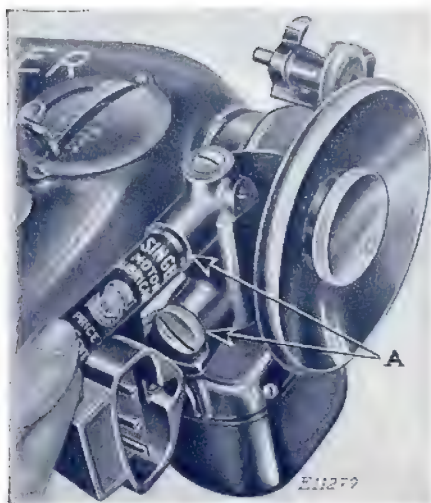

FIG. 29. LUBRICATING THE MOTOR
When the machine is shipped from the factory, the two motor grease cups (A, Fig. 29) are filled with sufficient **SINGER MOTOR LUBRICANT** for approximately one year's use, under ordinary circumstances.
At least once a year thereafter, turn the machine back on its hinges and remove the two thumb screws from the two grease cups (A) and clean out the interior of the cups. Then insert the tip of the motor lubricant tube into the grease cups as shown in Fig. 29 and, while holding the tube firmly against the bottom of the grease cups, squeeze about a quarter of a tube of the lubricant into each cup, then replace and tighten the thumb screws.